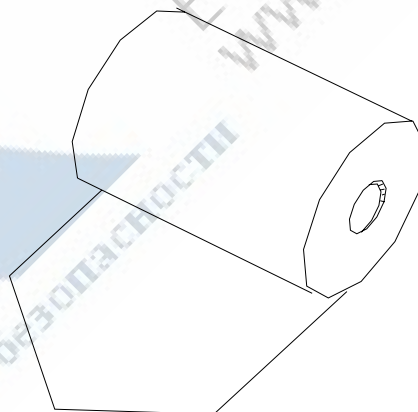

Fig. 8-5
5) Cut the end of the paper according to Fig.8-5.